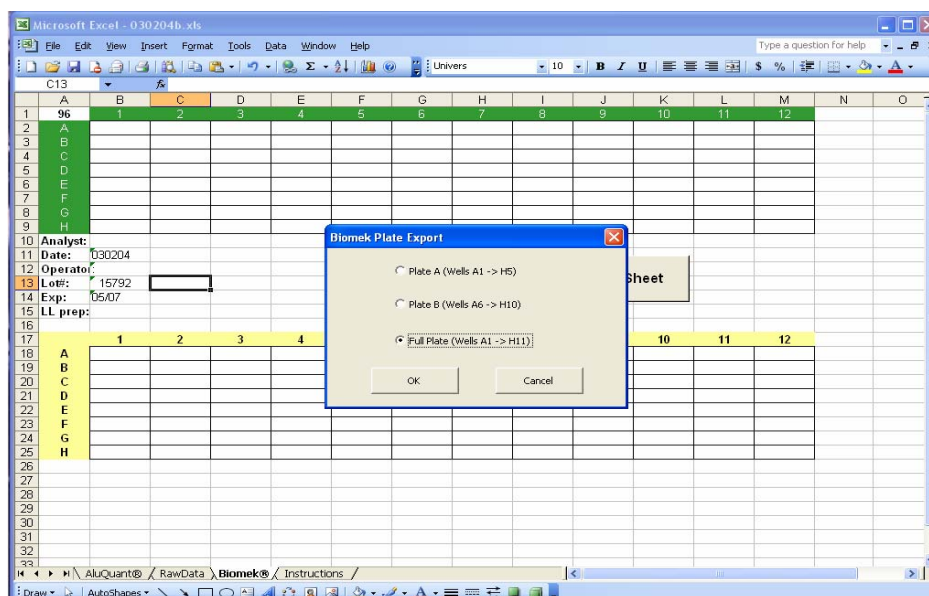

Figure 3. BioMek® Plate Import Prompt
- 5.4.3 When the window pops up prompting the user how the data should be transferred (Figure 3); select Full Plate (Wells A1→H11), then click OK.